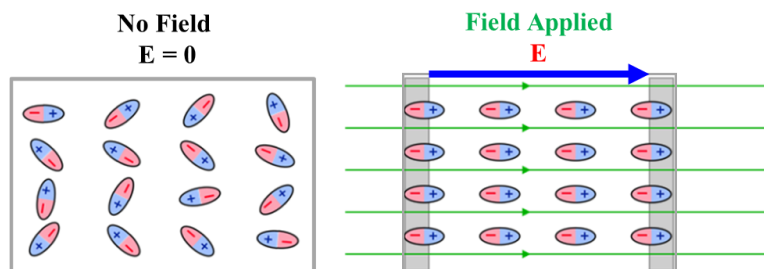

Figure 4.11: Orientation polarization.
- These materials typically exhibit a hysteresis loop in their polarization-electric field (P-E) relationship, see figure 4.11.
- The dielectric constant of Ferroelectric materials is very high and is of the order of 1000 to 10,000. The dielectric constant (ϵ) changes with temperature (T) according to Curie-Weiss law given by, $\epsilon = \frac{C}{T - T_C}$ ($T > T_C$), where C is called the Curie's constant and T_C is the Curie temperature³.